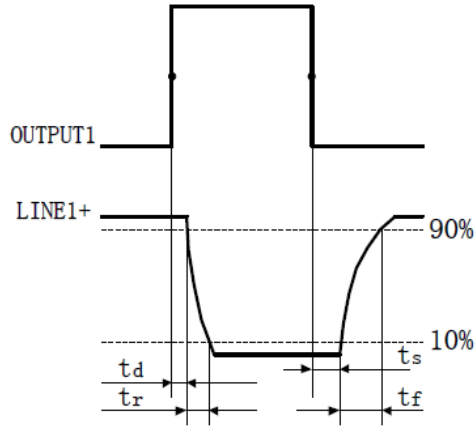

Figure 3-4 Optocoupler isolated output circuit parameters
- Rising edge delay = t_r+t_d : $<50\mu s$ (0°C~45°C). Parameter description is shown in Figure 3-4:
- Falling edge delay = t_s+t_f : $<50\mu s$ (0°C~45°C). Parameter description is shown in Figure 3-4:
in Figure 3-4
- Falling edge delay= t_s+t_f : $<20\mu s$ ($0^{\circ}C\sim 45^{\circ}C$). See Figure 3-4 for parameter description.